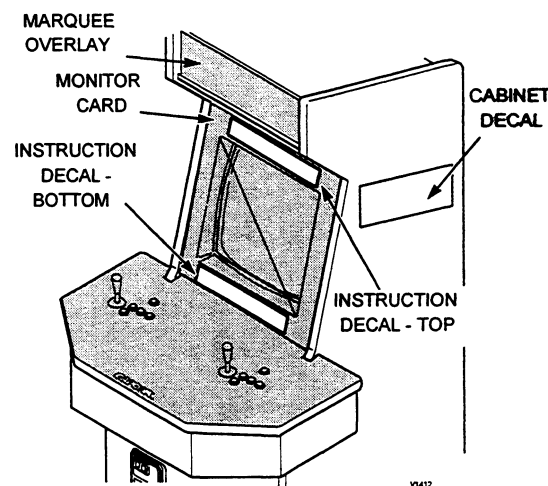

Figure 5: Cabinet Decal Installation
20. Peel-off the backing to the instruction decals and place on both the top and bottom of the monitor card. (See Figure 5). Also, apply the cabinet decals to both sides of the cabinet.